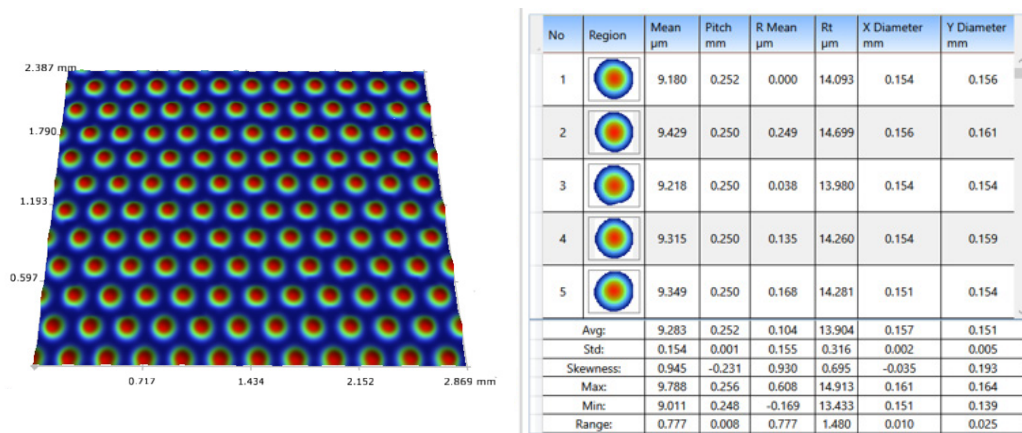

FIGURE 5
Microlens arrays contain multiple lenses formed in a one-dimensional or two-dimensional array on a supporting substrate. Pitch, diameter, and height are critical measurements for a microlens array. Multiple Region (MR) analysis can automatically detect and analyze up to 42 different relevant array parameters (including pitch, diameter, and height) on the detected microlenses. An example microlens array measurement is given in Figure 5, showing individual analysis for each lens as well as overall values for the whole array of measured lenses.